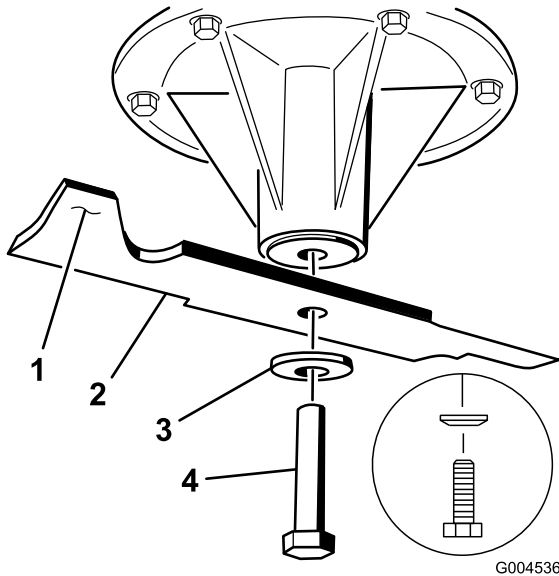

Figure 99
2. Remove the blade bolt, curved washer, and blade from the spindle shaft (Figure 99).